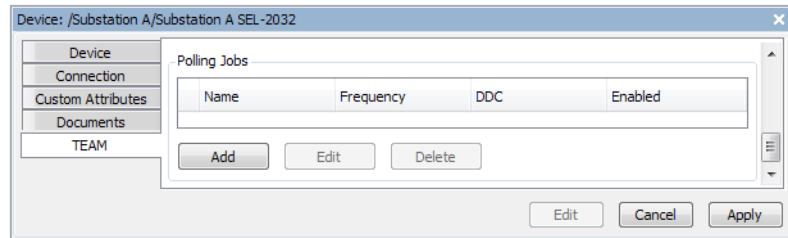

Figure 53 Add TEAM Polling Job
Step 9. Return to the Substation A SEL-2032 window and select the **TEAM** tab, as shown in *Figure 53*. Select **Edit** and then **Add**, also shown in *Figure 53*, to start the **Polling Job Wizard**.